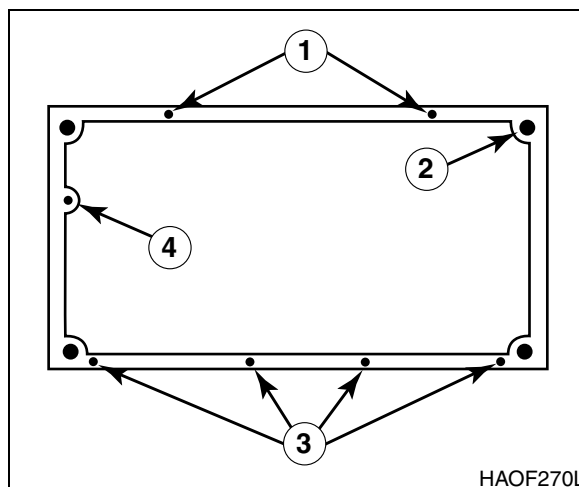

Figure 9
- Install four mounting nuts on four corners of cabin floor (2, Figure 9).
- Install four hex bolts (3, Figure 9) in door side of cabin floor.
- Install two hex bolts (1, Figure 9) in right side of cabin floor and one bolt (4) in front of cab floor.